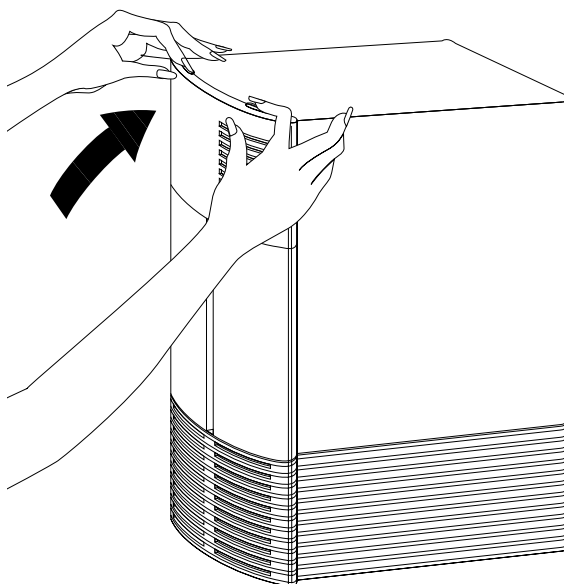

Figure 3-26 Replacing the Front Plastic Cover
- Tilt the panel up to the chassis, as shown in Figure 3-26. The cover snaps in place.